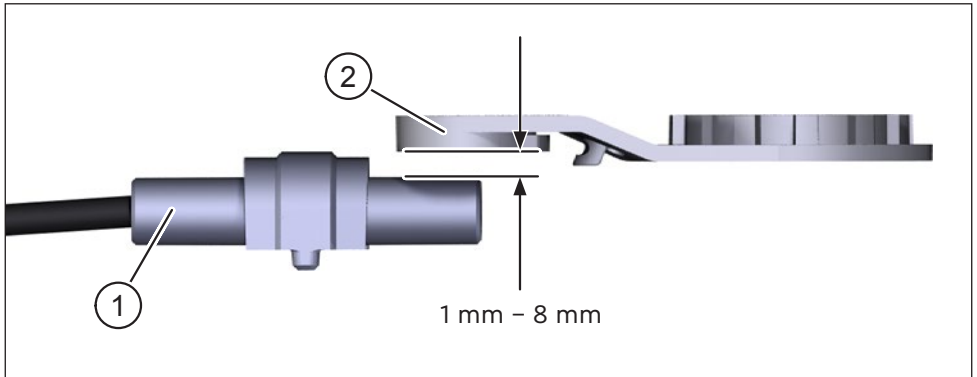

Fig. 1: Mounting – Distance between Speedsensor and magnet
The speed of the e-bike is measured with support of a magnet (item 2 in Fig. 1) which triggers pulses at the speed sensor (item 1 in Fig. 1). The Speedsensor and magnet are mounted at manufacturer with a distance between 1 mm and 8 mm (see Fig. 1) in the area of the rear wheel.